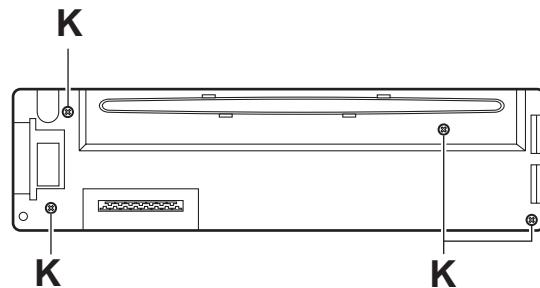

Fig.9
(See Fig.9 to 11)
- (1) Remove the four screws **K** on the back side of the front panel assembly. (See Fig.9)